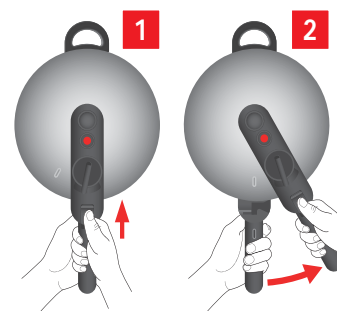

Abb. 5: Removing the lid
4. Push the opening slide into the forward position and turn the lid anticlockwise up to the limit stop (see fig. 5).